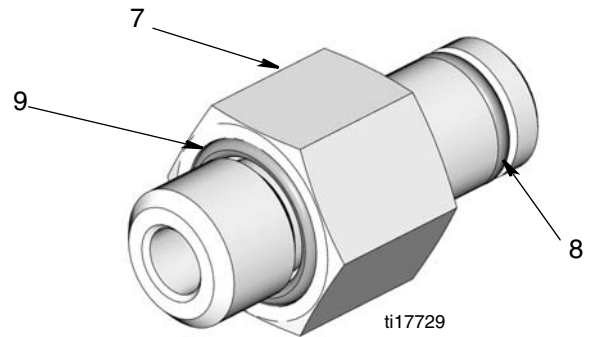

FIG. 2
3. Be sure the two o-rings (8, 9) are correctly installed on the bolt (7) as shown in FIG. 2.